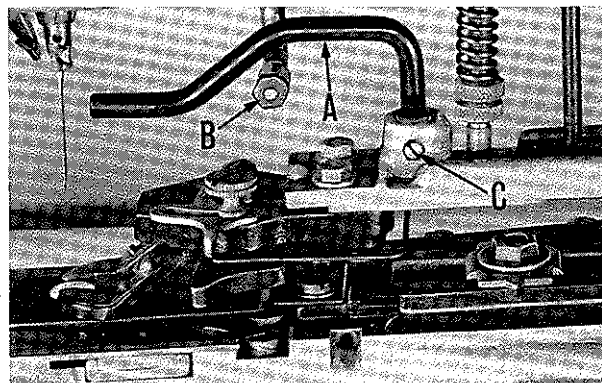

Fig. 10
Take machine out of stop position, and turn pulley in operating direction until button clamp is in its furthest position to the rear. At this point, there must be clearance between the button clamp lifting rod (A, Fig. 10) and the button clamp lifting roller (B). Adjustment is made by loosening screw (C) and moving rod (A) up. This will affect the height of the button clamp in relation to the feed plate as previously described, but for the normal setting of $1/2$ inch, no interference between lifting rod and roller will occur.